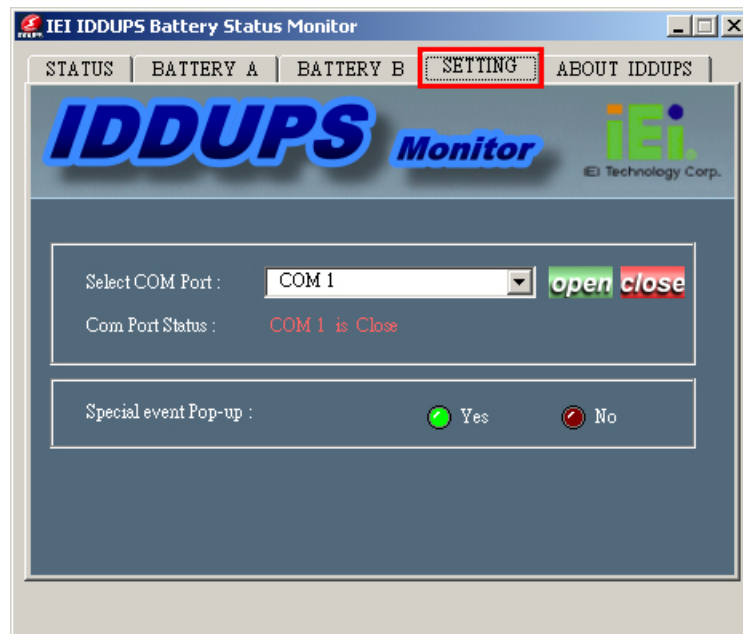

Figure 5-2: IDDUPS Battery Application - Setting
Step 4: Click the SETTING tab when the IDDUPS Battery application is loaded (**Figure 5-2**).